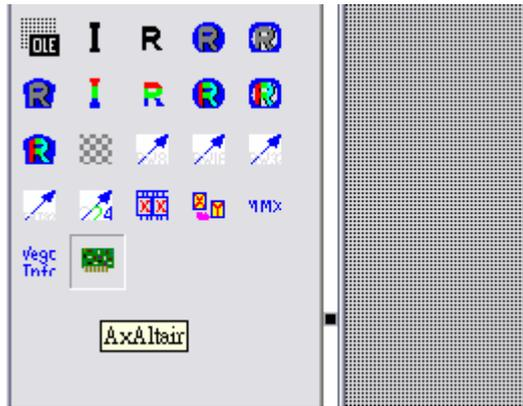
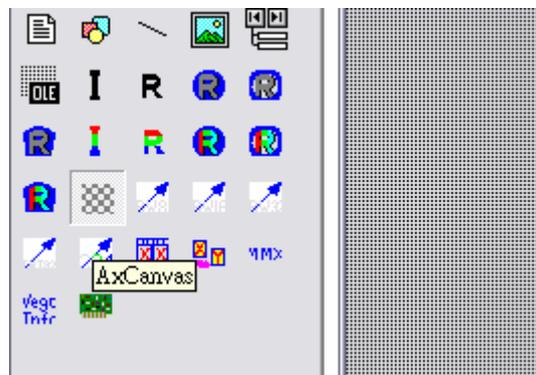

Figure 19.
Figure 20.
4. Pick the component from the palette as shown in Figure 19、Figure 20.